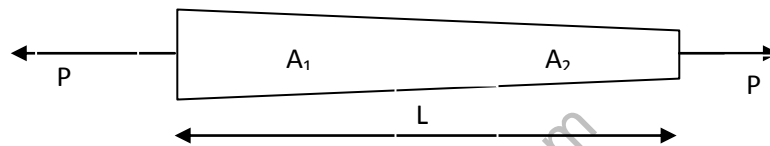

Figure 2 (b)
b) The axial bar shown in the figure 2(b) below is tapered and the areas of cross section at ends are  $A_1$  and  $A_2$ . Calculate the strain energy of the bar assuming the material obeys hooks law.